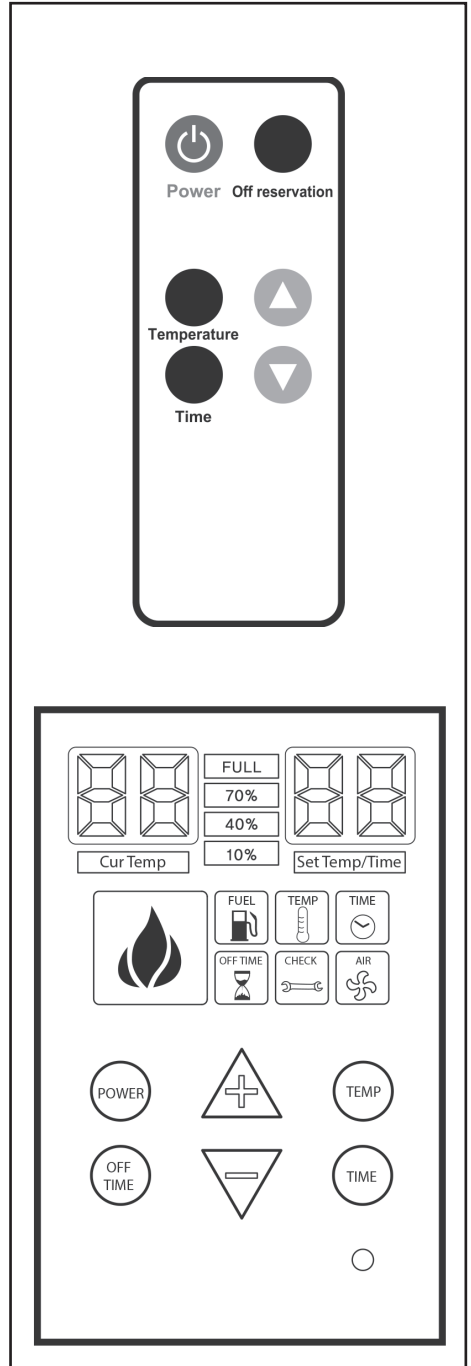

FIG. 2
9.2 SELECT TEMPERATURE OR TIME CONTROL MODE – FIG. 2